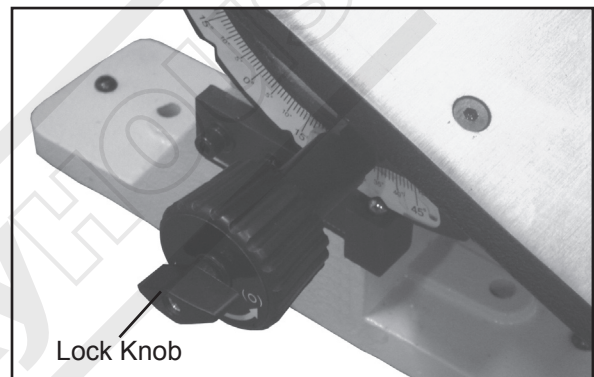

Fig. 02
1. Loosen lock knob (Fig. 02) and move table into the 90-degree position. Tighten lock knob and place a square against the table and sander disc. The square should rest flat against the table and the disc.